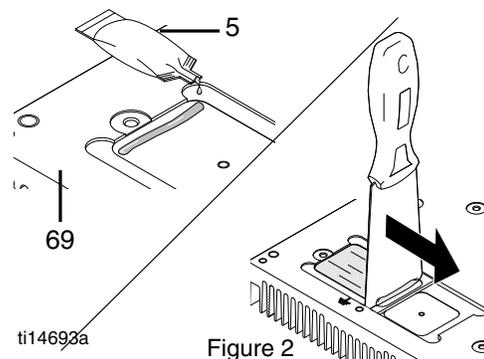

Figure 2
- b. For 6 capacitor boards with the Powerbar shown in Figure 2 below, apply a small amount of thermal compound 15U114 or 110009 (5) into both pockets of the Powerbar (69) and scrape across the pocket with the provided scraper so an even layer is remaining in the pocket.